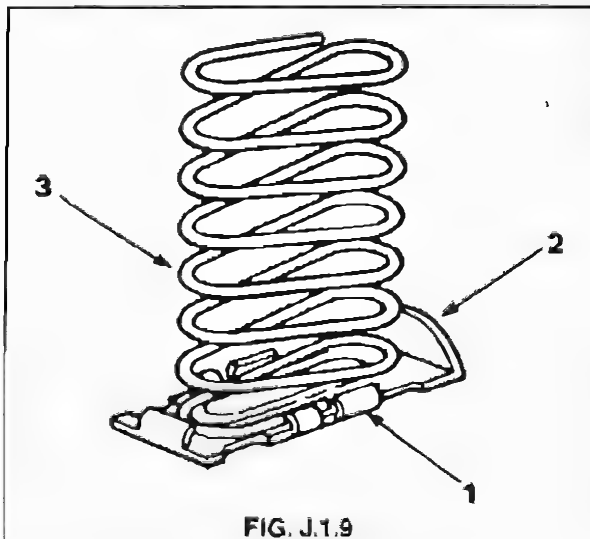

FIG. J.1.9
6. Using a screwdriver or similar implement bend back the lugs on the platform and remove the spring. See Fig. J.1.9.